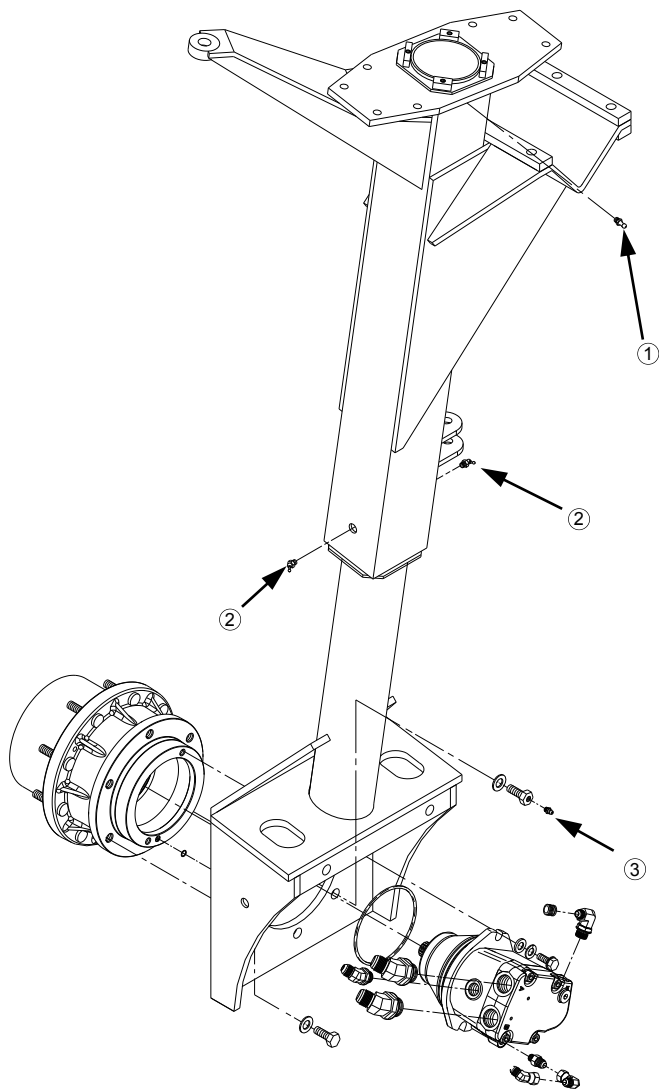

FIG 7.29
Hagie 204SP leg assemblies are constructed with upper and lower nylon bearings for suspension telescoping between the inner and outer leg weldments. These bearings must be lubricated to avoid bearing failure and ensure optimal ride quality. There are grease zerks located on the sides of the leg assemblies, one for the upper bearing (fig. 7.29, item 1) and two for the lower bearing (fig. 7.29, item 2). Greasing both bearings on both front and rear legs daily is very important.
Each leg has a seal boot located between the wheel motor and Torque Hub®. Seal boot grease zerks (fig. 7.29, item 3) should be greased once every 50 hours or as needed. An over-greased seal boot will leak some grease out around the seal and when heated may cause the appearance of a failed wheel motor leaking hydraulic fluid. Wipe off any excess grease after servicing.